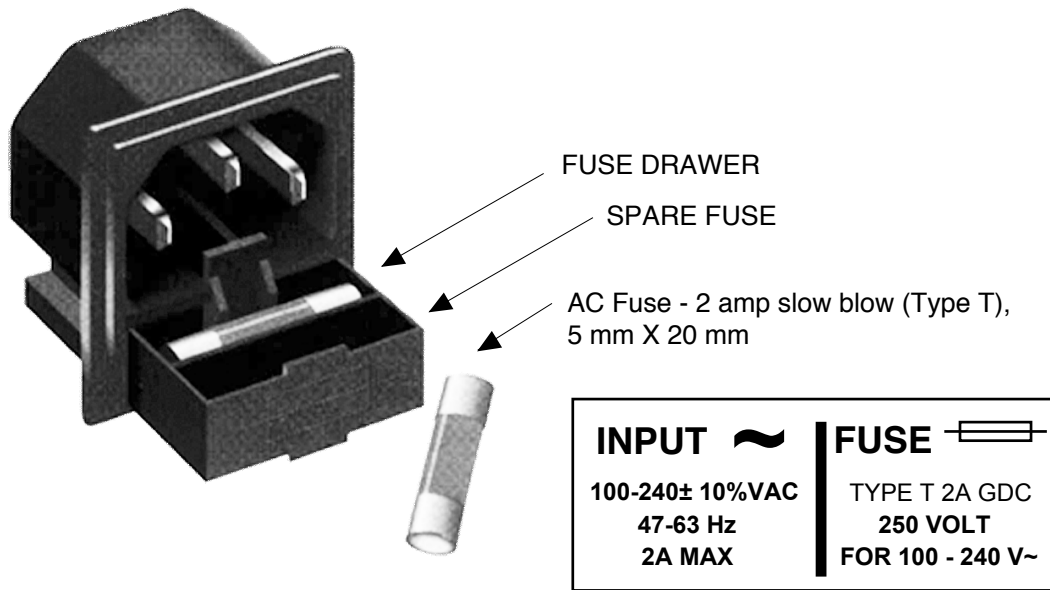

Figure 2.3 Fuse Location and Spare Fuse
- 6.) **AC Fuse** - The fuse is a 5 mm X 20 mm, 2 amp slow blow (Type T) and is inserted in the far slot in the drawer below the AC input as shown in Figure 2.3. There is a spare fuse in the near slot. If a fuse continues to open, the power supply is most likely defective.